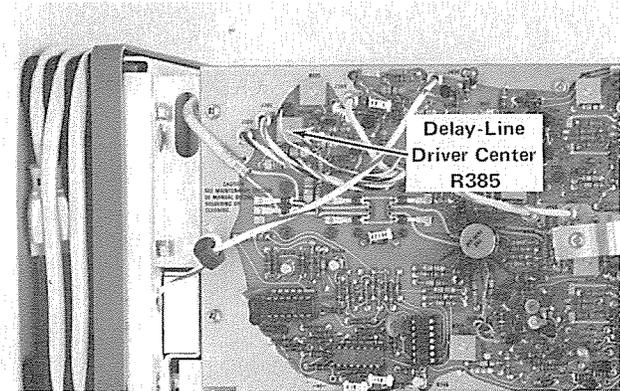

Fig. 5-7. Location of Delay-Line Driver Centering adjustment.
c. ADJUST—Delay-Line Driver Centering adjustment, R385 (see Fig. 5-7), for a reading of 0 volts at both ends of the delay line.